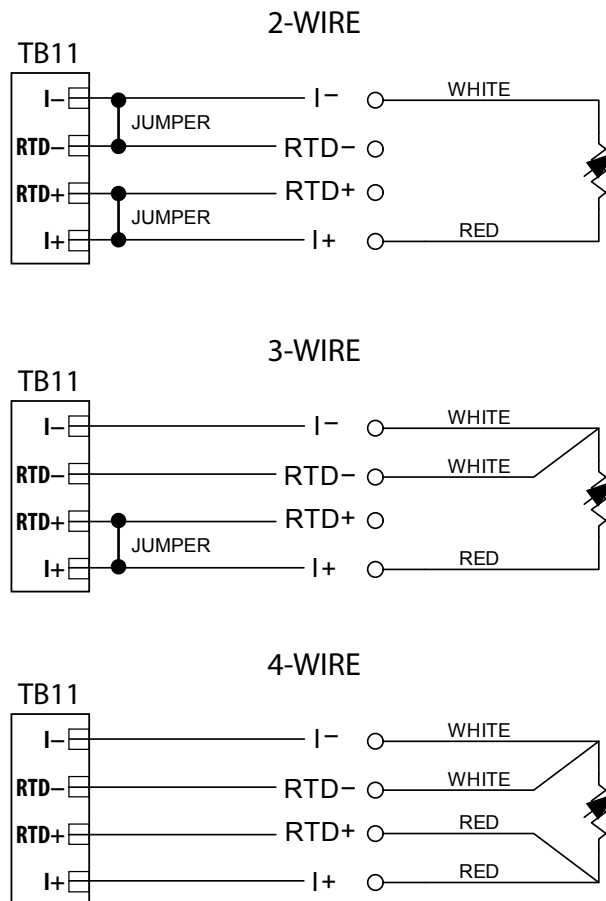

Figure 3.10—Process temperature input wiring
6. Connect the process temperature input wiring to terminal block TB11, if appropriate. See Figure 3.10, page 56.
A 4-wire, 100-ohm platinum 0.00385 ohm/ohm°C RTD is recommended for performing orifice gas and compensated liquid calculations or gas turbine calculations, though a 2- or 3-wire RTD may prove functional. Wire as shown in Figure 3.10.